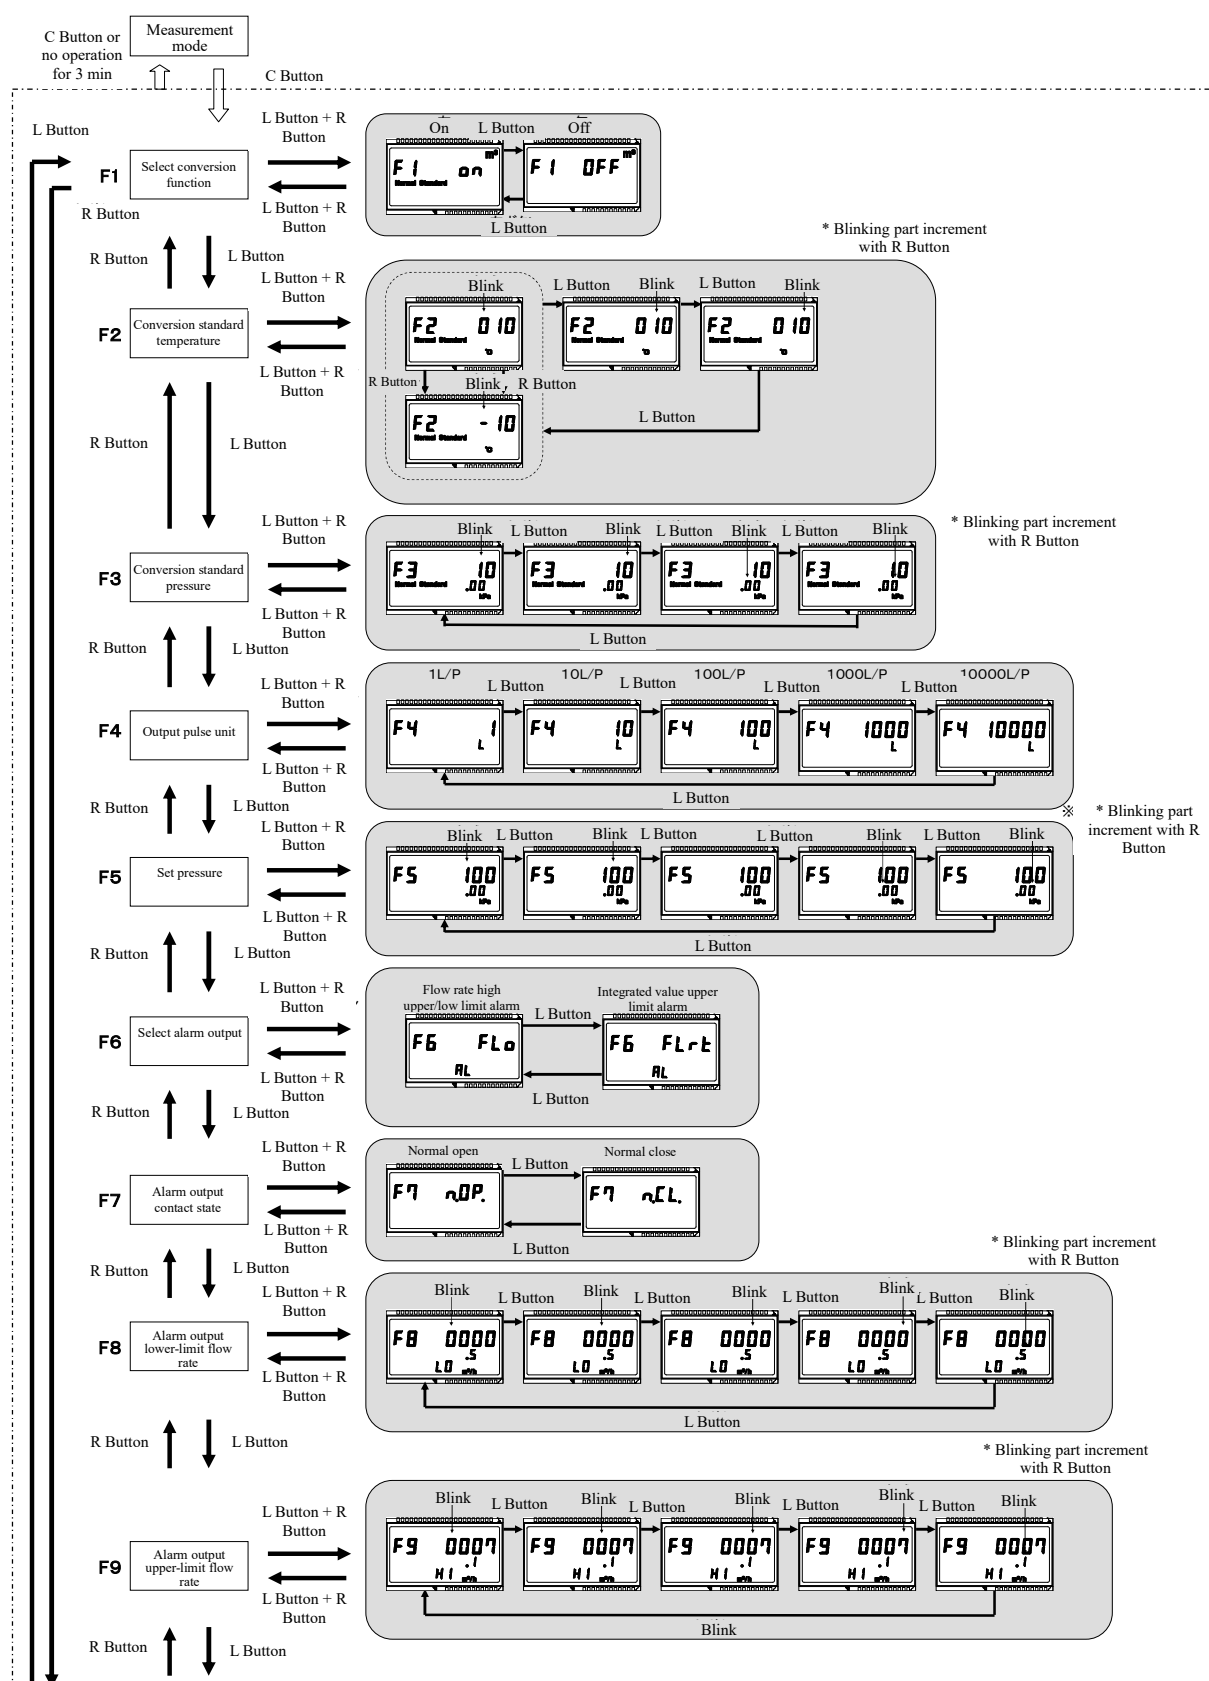
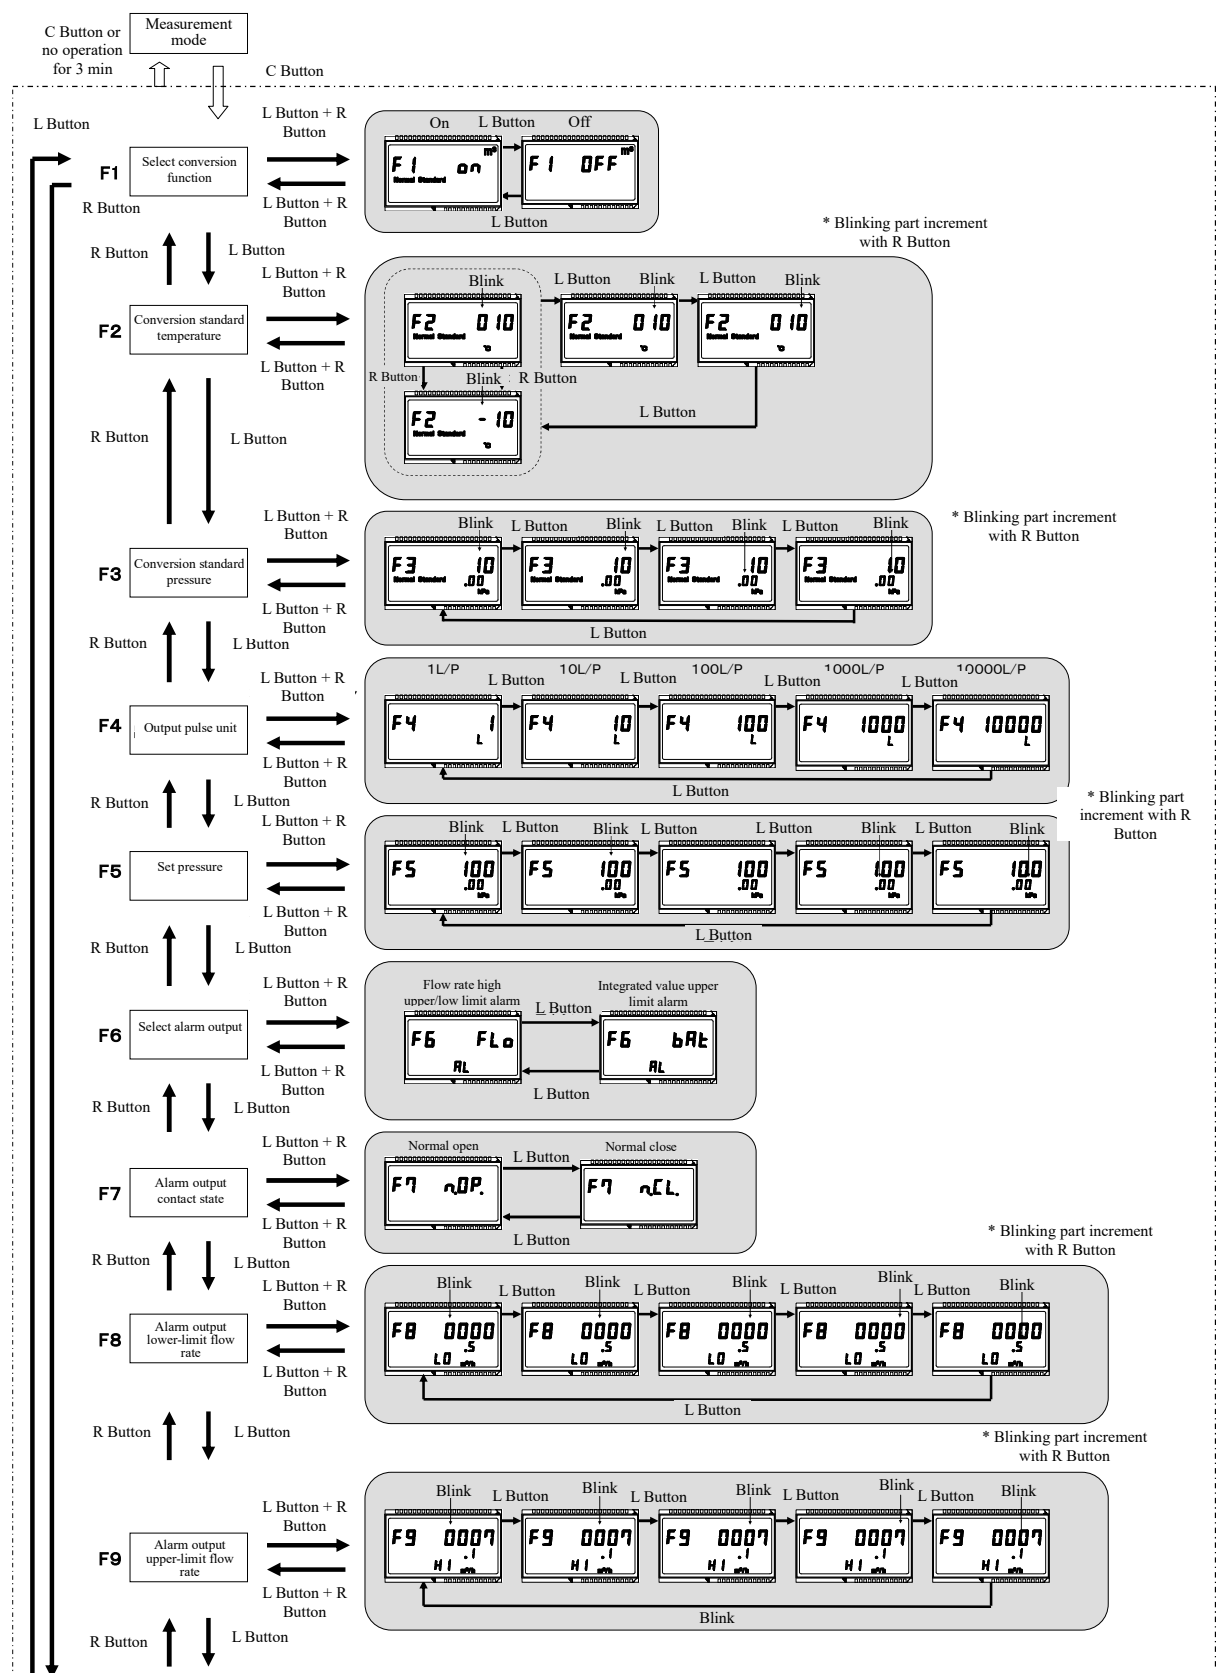

Figure 8-3. Display switching in various setting modes (External power supply specification)
Figure 8-5. Display switching in various setting modes (Built-in battery specification)
- (1) When "Center Button" is pressed, the mode shifts to the setting mode. To shift from the setting mode to the measurement mode, press "Center Button" again. When no operation is made for 3 minutes in the setting mode, the mode automatically shifts to the measurement mode.
- (2) In the setting mode, settings described in "Table 7-1 Various setting items and details in setting mode" (p. 21) may be changed.
- (3) For button operation in the setting mode, see Figures 8.3 and 8.4 "Display switching in various setting modes" (pp. 32 and 33) in terms of external power supply specification and Figures 8.5 and 8.6 "Display switching in various setting modes" (pp. 34 and 35) in terms of built-in battery specification.